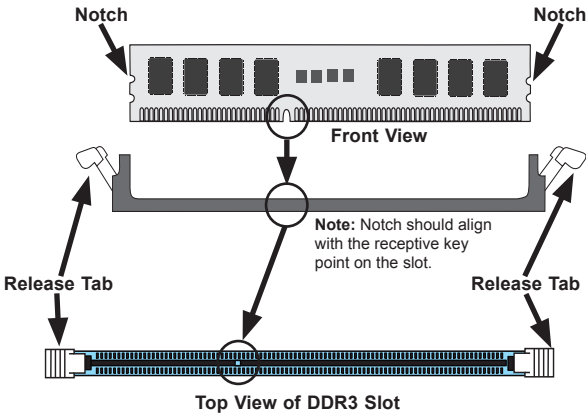

Figure 5-3. Installing DIMM into Slot
1. Insert each memory module vertically into its slot, paying attention to the notch along the bottom of the module to prevent inserting the module incorrectly (see Figure 5-3).